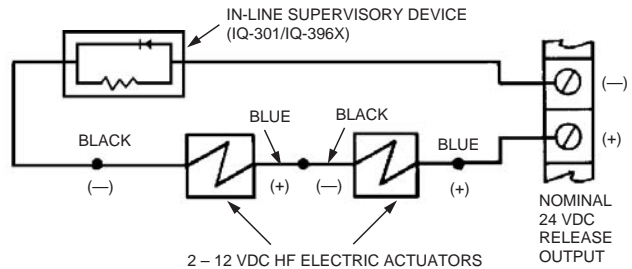

FIGURE 3
2. Two HF electric actuators (Part No. 73327) may be wired to the release circuit of an AUTOPULSE microprocessor-based control unit. Figure 3 shows a typical diagram for wiring of two actuators. Polarity must be observed when wiring this circuit. The installation of an in-line supervisory device is required for many IQ-301/IQ-396X release circuits.